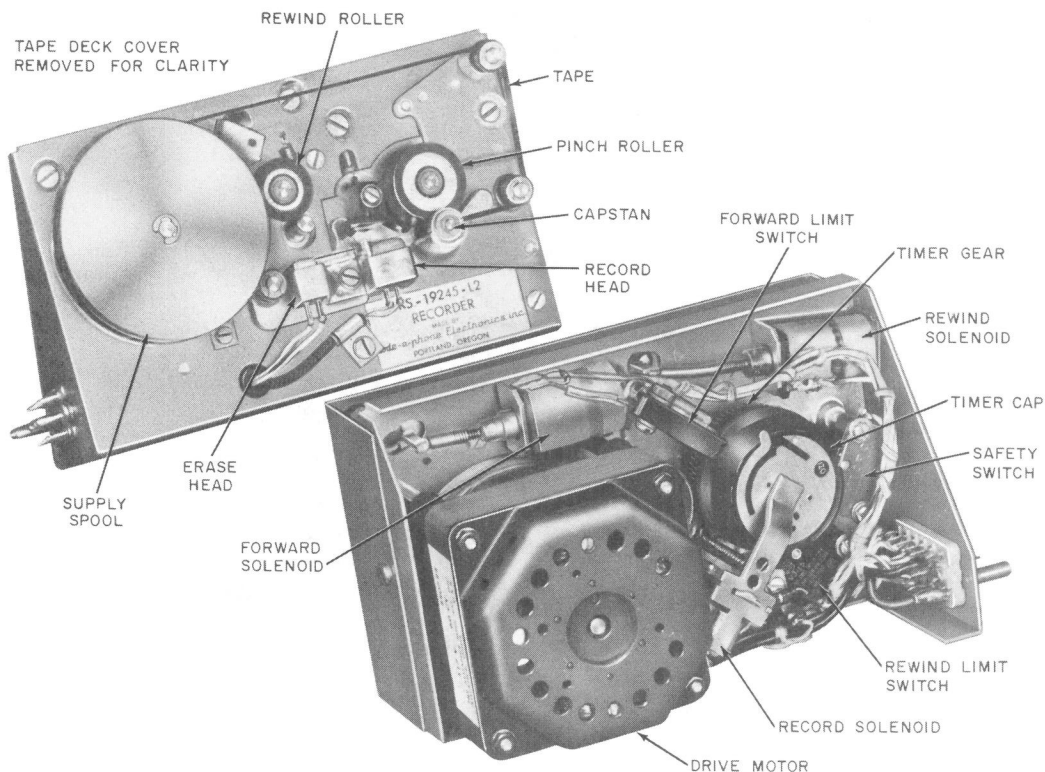

Fig. 8—KS-19245, List 2 Recorder Front and Rear Views
- 16.02** Refer to Fig. 8 and 9 for reference with operational procedure.